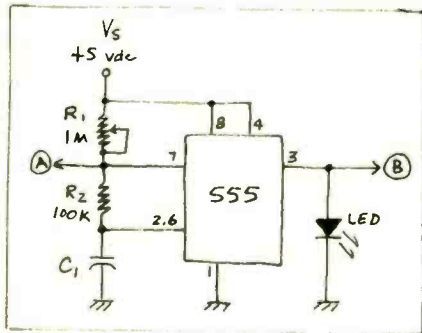

FIG. 1
Figure 1 shows the basic 555 unit. The LED flashes once for each timing interval or period (T), and that interval can be varied from milliseconds to several minutes by the value of C_1 and the setting of R_1 . Table I shows the values of C_1 that produce ranges including certain useful T values.